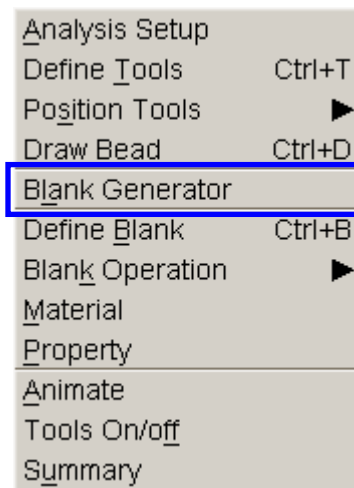

Figure 20: Tools menu
1. Select **Tools**→**Blank Generator** on **Menu bar**, as illustrated in Figure 20.